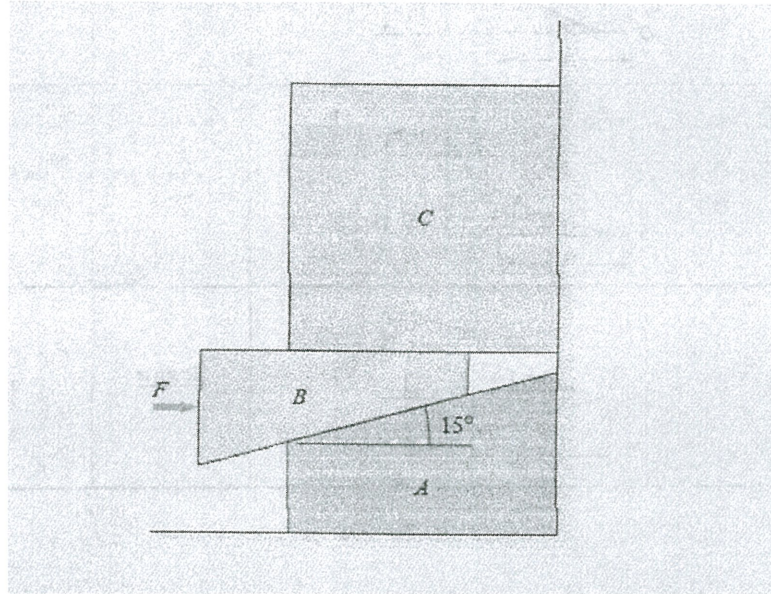

FIGURE Q6
- Define what Coulomb friction is and describe **THREE (3)** various kind of friction? (3 marks)
- Figure Q6** shows three blocks A, B, and C with weights $W_B = 30\text{N}$ and $W_C = 90\text{N}$. Surface friction between A and B, $\mu_s = 0.18$. Between C and the wall surface friction is $\mu_s = 0.3$.